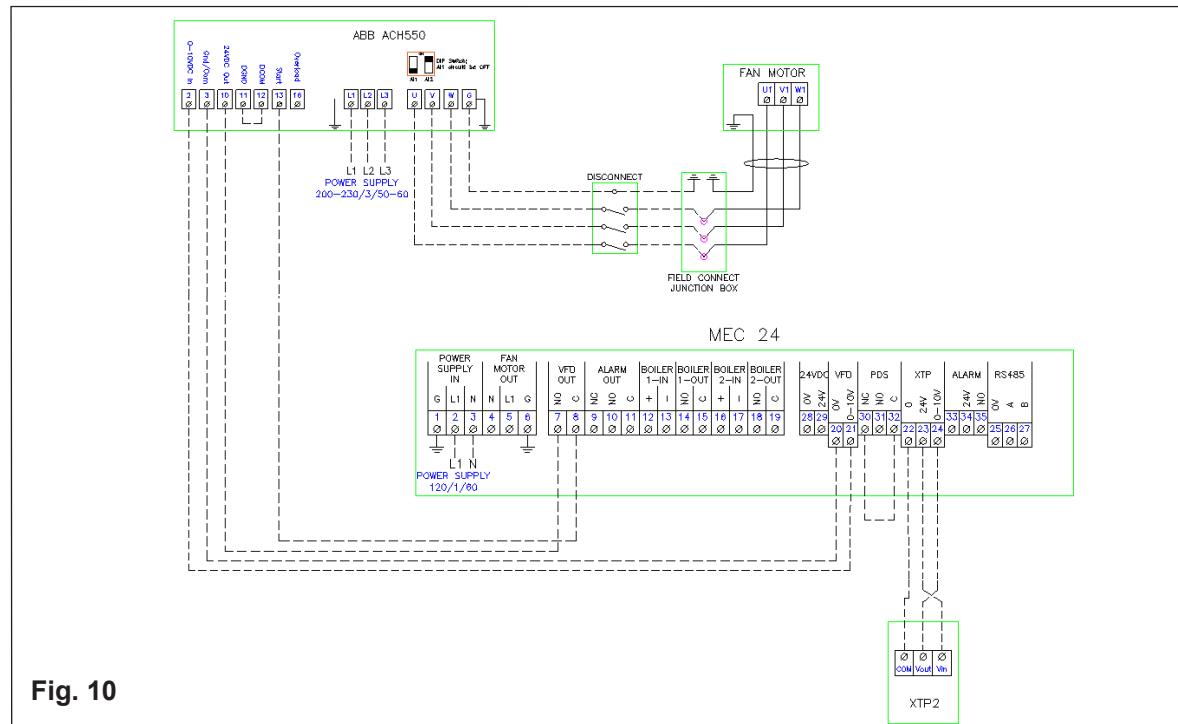

Fig. 10
- ▶ If using a 3-phase fan and VFD, connect the VFD to terminals 20 and 21 as shown in Fig. 10 and 11.
- ▶ If using a 3-phase fan and VFD, connect the VFD to terminals 20 and 21 as shown in Fig. 10 and 11. **DO NOT** connect the fan directly to the MEC24 control.
To connect the 3-phase fan and variable frequency drive (VFD), connect the VFD to terminals 20 and 21 of the MEC24. **DO NOT** connect the fan directly to the control. Wire the ABB ACS355 series variable frequency drive according to fig. 10.